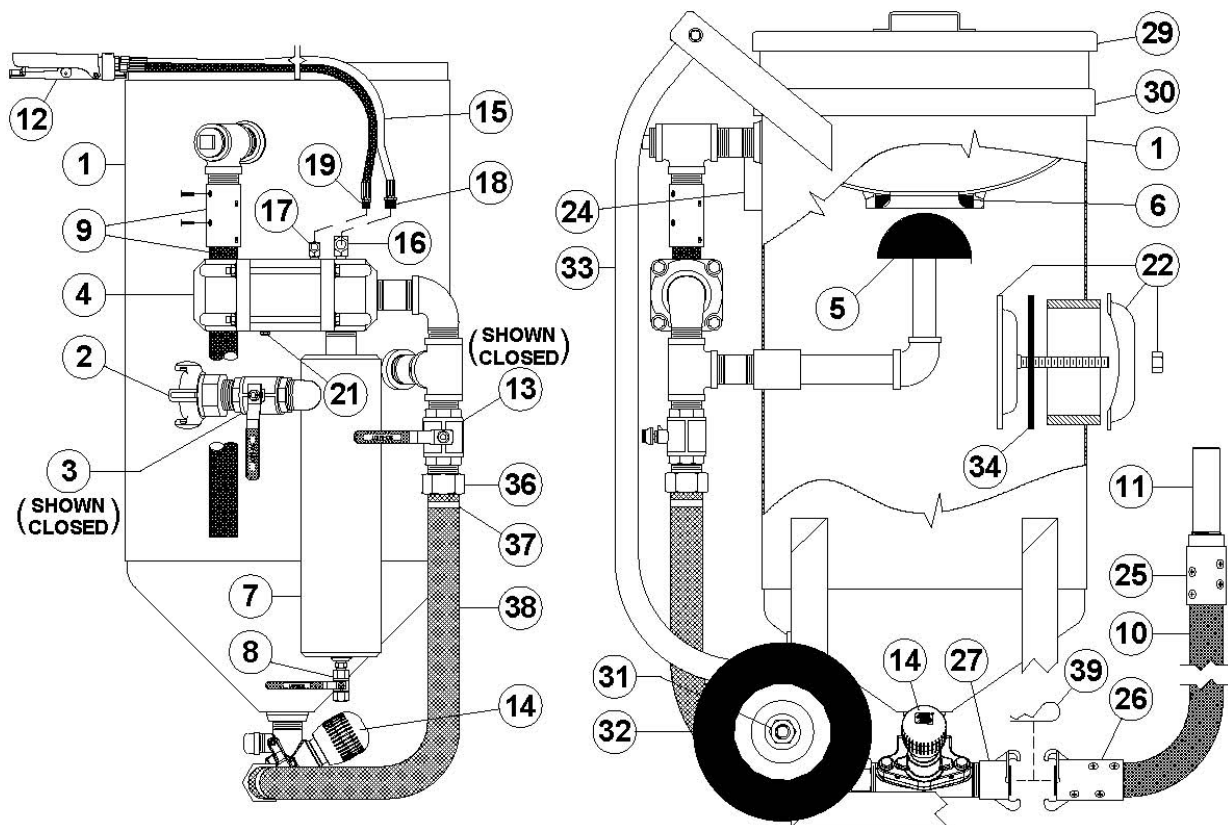

Figure 7.4 – Micro Valve Abrasive Blaster with pneumatic blast controls
## 7.4 Ending the Blast Operation (See Figure 7.4)
- 7.4.1. Close the air inlet ball valve (#3). The ball valve is closed when the handle is fully turned to the position shown in Figure 7.4 (handle perpendicular to body). The handle tab will bottom against the ball valve body in the closed position.